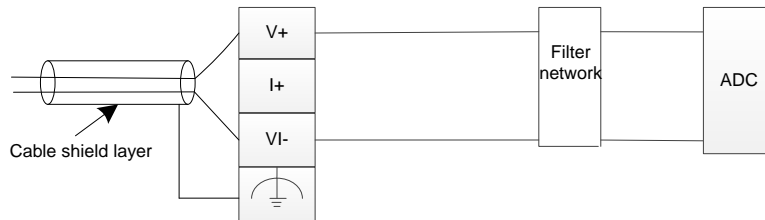

Figure 5.15 Wiring of voltage input
- For voltage input, use V+ and VI- for input, as shown in figure 5.15, and ensure the voltage input is within the range.